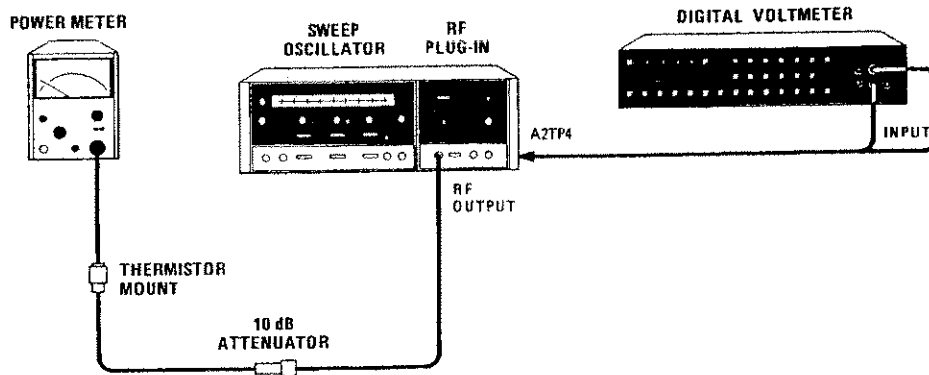

Figure 5-7. OFFSET and Power Control Adjustments Test Setup
Equipment listed is for four (4) test setups (Figures 5-7, 5-8, 5-9, and 5-10).
1. Connect equipment as shown in Figure 5-7.